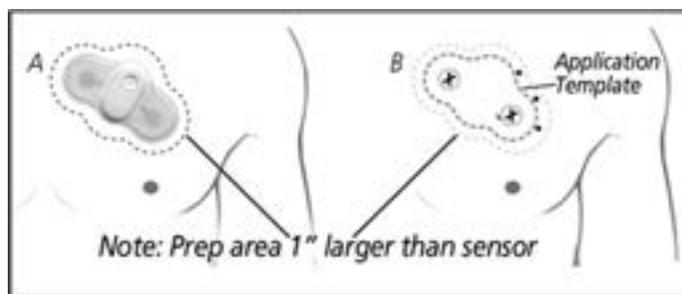

Figure 3.3. Using the Application Template to position the Sensor.
1. Determine the placement location using the Application Template. Prepare an area 1 inch larger than the Sensor (see Figure 3.3 below). This allows for slight movement of the Sensor over the monitoring period. Shave or clip hair in the application area if needed. Dry shaving may irritate the skin and induce itchiness during the wearing and should be avoided. Open the Skin Prep Materials from the pouch and prepare the skin with alcohol to remove skin oil or lotions. Allow the area to dry for at least 30 seconds.
2. Place the Application Template against the skin in the desired placement area as illustrated in Figure 3.3. Use a pen to mark the skin. X's to mark electrodes (holes) and dots or a short line to mark the border of the sensor where indicated on the template. Discard Application Template.